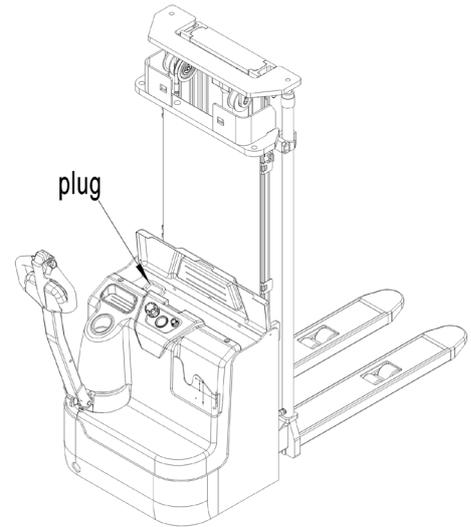

Fig.19: Lead-acid Battery charging
Park the truck securely and switch off the stacker with the key (8) and activate the emergency button (6). Open the battery cover and pull out the hinge, remove the battery cover. Unscrew and remove the battery baffle plate, pull out the battery plug (Fig.19), and take the batteries out with a crane. The installation is in the reverse order of the removal. Please connect the positive terminals firstly. Otherwise the truck could be damaged.
Lead-acid battery (Fig.19): Switch the truck off and connect the battery plug to the charging plug of the charger.
Lead-acid battery (Fig.19): Disconnect the battery plugs after the charger finished charging. Connect the battery plug with the plug at the truck.